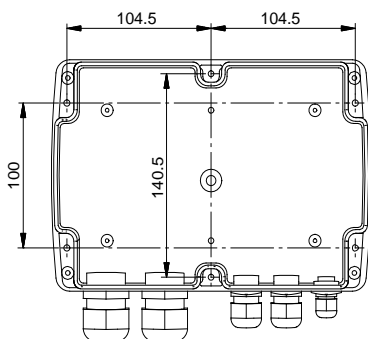

Fig. 2
The box has six mounting holes (Ø4). See fig. 2. The dimensions are in mm.
- Horizontally to allow condensed water, if any, to escape. See fig. 2.